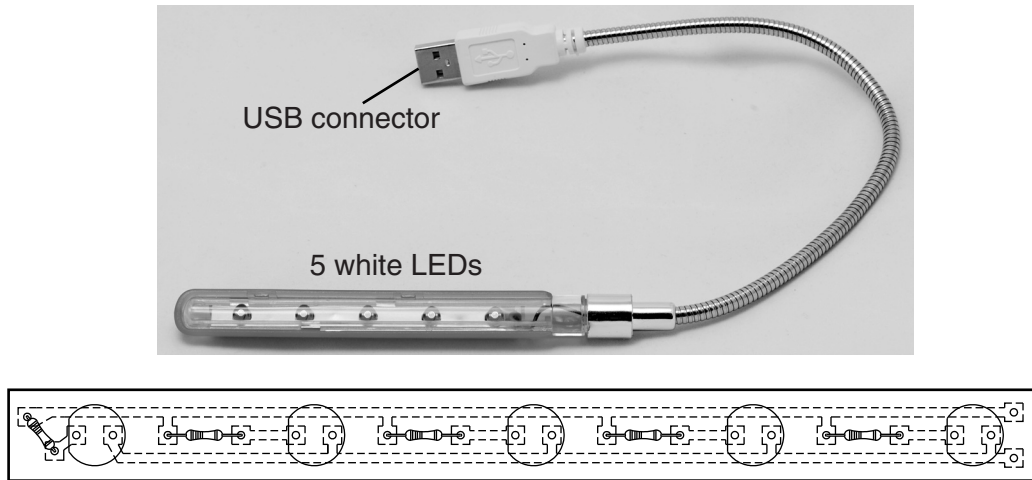

Fig. 3
- 4 Fig. 3 shows an LED lamp that plugs into a computer USB socket. The printed circuit layout with LEDs and resistors in position is also shown.